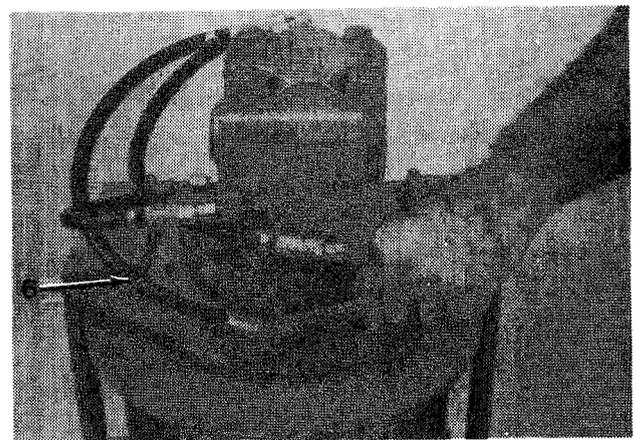

Figure 16-2
4. Remove oil level plug (4) and O-ring (5), and stand winch on bearing support end.
5. Disconnect hydraulic hose (6, Figure 16-2).